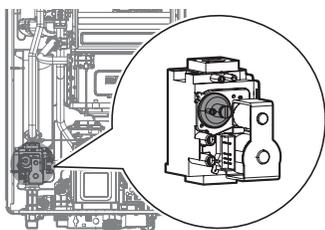

Figure 10. Set Screw Location
- c. Fully open a hot water fixture and set the water heater to operate at 1-stage MIN mode (refer to “Setting the Operation Mode” on page 115). Measure the offset value at low fire and compare it to the values in Table 3. If the offset value is out of range, the gas valve set screw will need to be adjusted. If adjustment is necessary, locate the set screw as shown in Figure 10. Using a 5/32 in. or 4 mm Allen wrench, turn the set screw no more than 1/4 turn clockwise to raise or counterclockwise to lower the offset value.